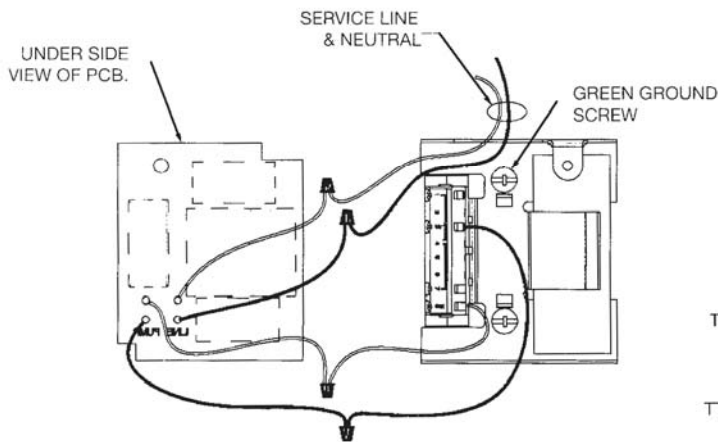

Figure 1: Wiring Add-A-Zone to Pump & Power Source
7. Make the electrical connections according to the wiring diagram provided (see figure 1). Run the pump power wiring through one of the holes in the metal conduit box. Do not attach conduit into the hole of the plastic base. This hole is only for the 24 volt control wiring. Use 14 AWG